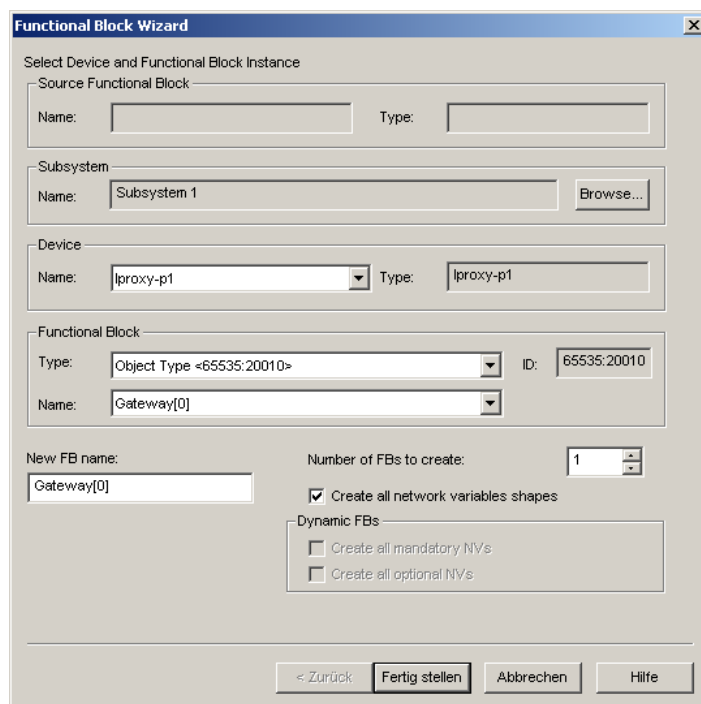

Figure 78: Functional Block Wizard in LonMaker TE.
1. Drag the Functional Block shape onto the drawing area. A dialog like the one in Figure 78 appears.